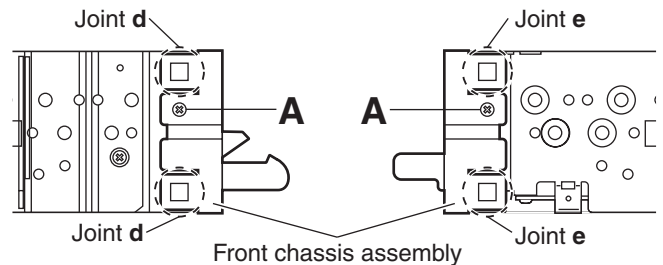

Fig.3
#### 3.1.3 Removing the front chassis assembly (See Figs.3 and 4)
- (1) Remove the two screws **A** on the both sides of the main body. (See Fig.3.)
- (3) Release the two joints **d** and two joints **e** on the both sides of the main body, then remove the front chassis assembly toward the front. (See Fig.3.)
#### 3.2.2 Removing the load arm (See Fig.3)